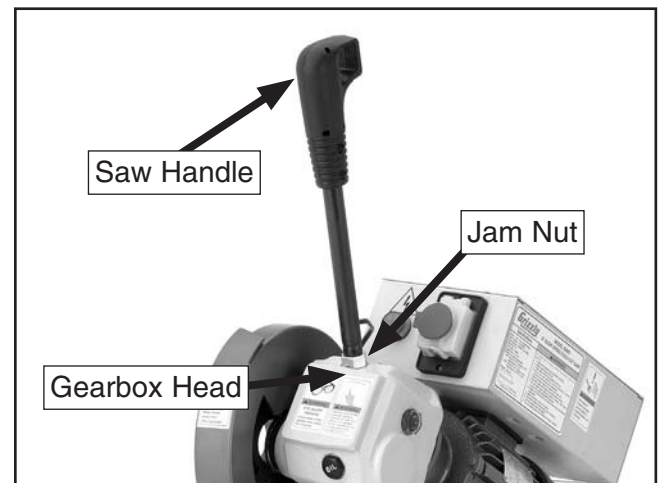

Figure 1. Attaching the handle.
1. Remove the tape that covers the hole on the gearbox head, then attach the saw handle by threading it into the gearbox head and tightening the jam nut, as shown in **Figure 1**.